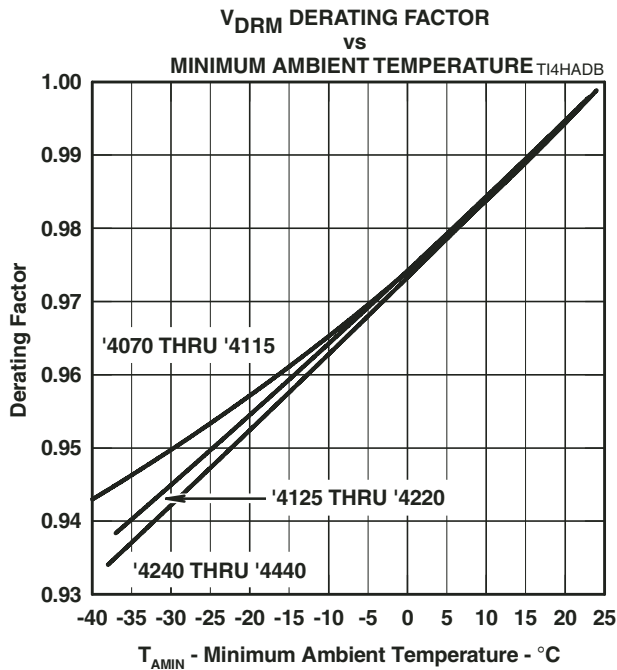

Figure 10.
- NOTES: 1. See Applications Information and Figure 10 for voltage values at lower temperatures.
Figure 10 allows the calculation of the protector V_{DRM} value at temperatures below 25 °C. The calculated value should not be less than the maximum normal system voltages. The TISP4265H3BJ, with a V_{DRM} of 200 V, can be used for the protection of ring generators producing 100 V r.m.s. of ring on a battery voltage of -58 V (Th2 and Th3 in Figure 17). The peak ring voltage will be $58 + 1.414 \times 100 = 199.4$ V. However, this is the open circuit voltage and the connection of the line, and its equipment will reduce the peak voltage. In the extreme case of an unconnected line, clipping the peak voltage to 190 V should not activate the ring trip. This level of clipping would occur at the temperature when the V_{DRM} has reduced to $190/200 = 0.95$ of its 25 °C value. Figure 10 shows that this condition will occur at an ambient temperature of -22 °C. In this example, the TISP4265H3BJ will allow normal equipment operation provided that the minimum expected ambient temperature does not fall below -22 °C.